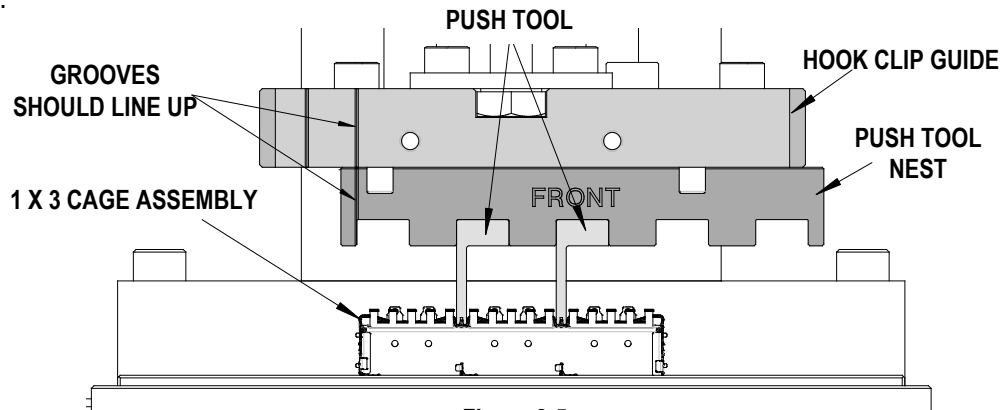

Figure 2-5
4. There is a vertical groove on the Hook Clip Guide and the Push Tool Nest that should be aligned. See Figure 2-5.